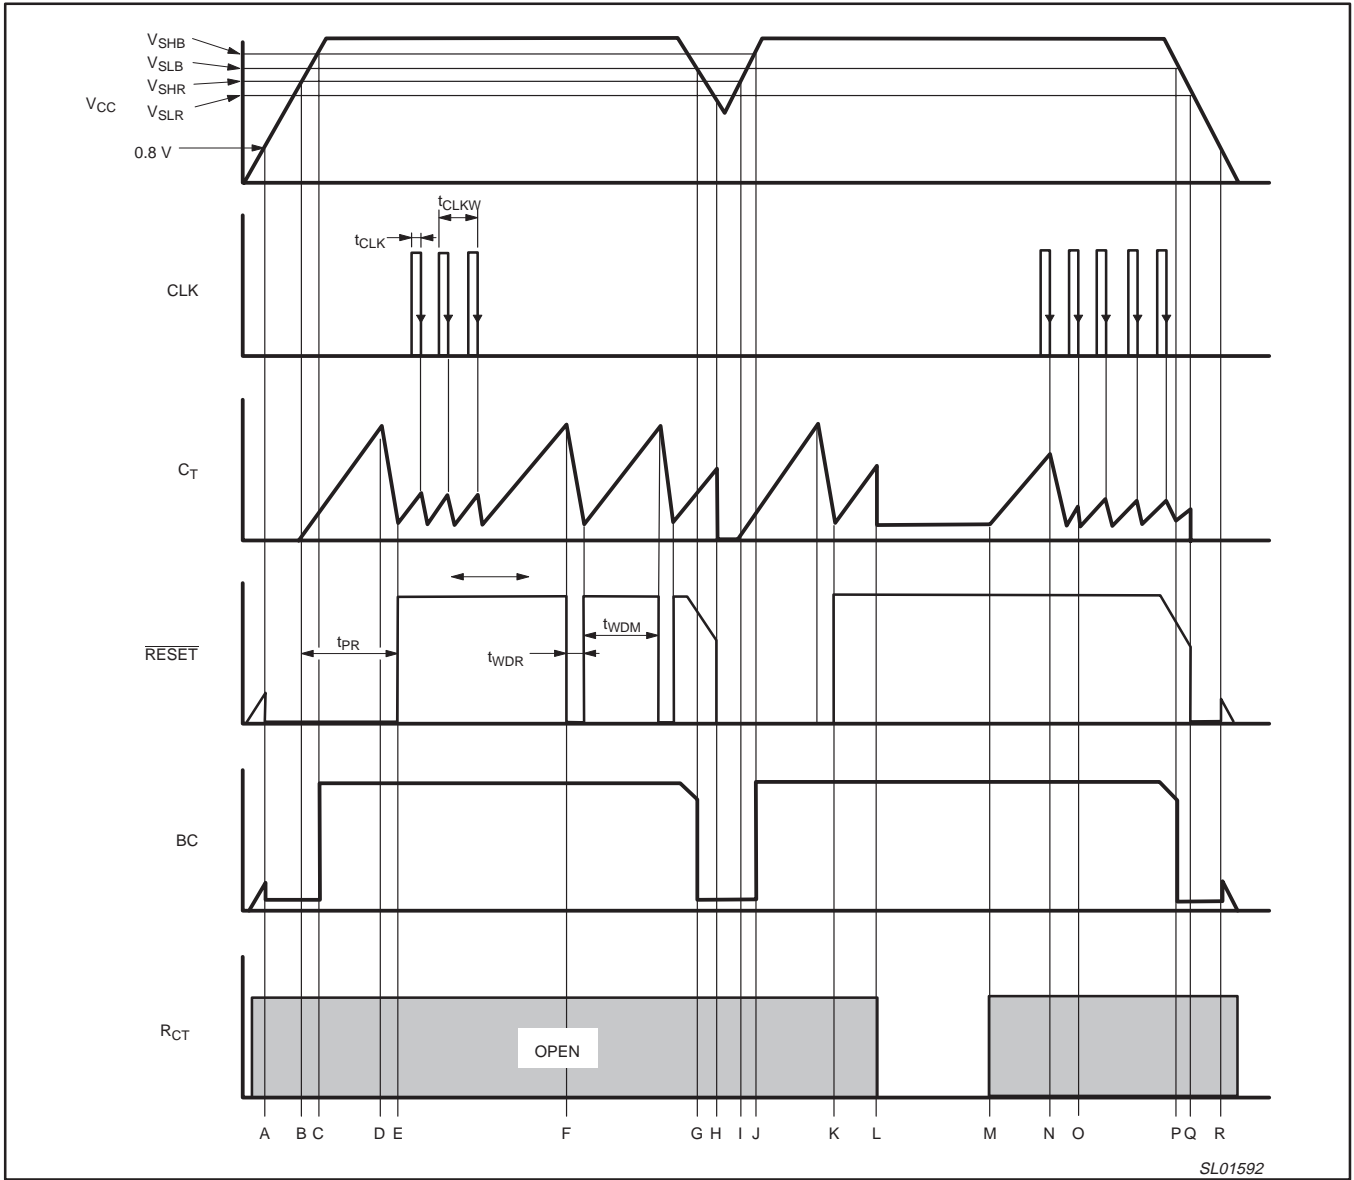

Figure 17. Timing diagram.
- 'Watchdog monitoring time' (t_{WDM}) is the duration from the last pulse (negative-going edge) of the timer clear clock pulse until reset output pulse occurs (see Figure 17). A reset signal is output if a clock pulse is not input during this time.
The timing diagram shown in Figure 17 depicts the operation of the device. Letters indicate events on the TIME axis.
The values of R_{CT} and C_T affect the Watchdog monitoring time (t_{WDM}), the Watchdog reset time (t_{WDR}), and power-on reset delay time (t_{PR}). See Formula 1 in the AC Electrical Characteristics and the timing diagram shown in Figure 17 for parameter definitions.